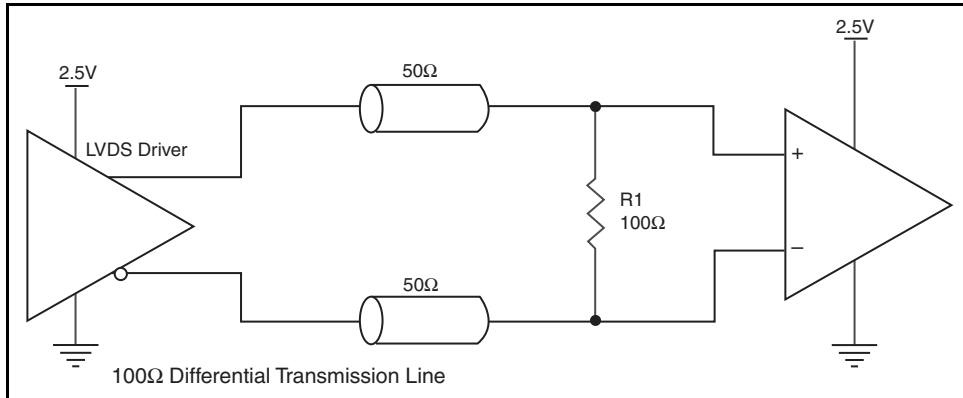

Figure 4. Typical LVDS Driver Termination
*Figure 4* shows a typical termination for LVDS driver in characteristic impedance of  $100\Omega$  differential ( $50\Omega$  single) transmission line